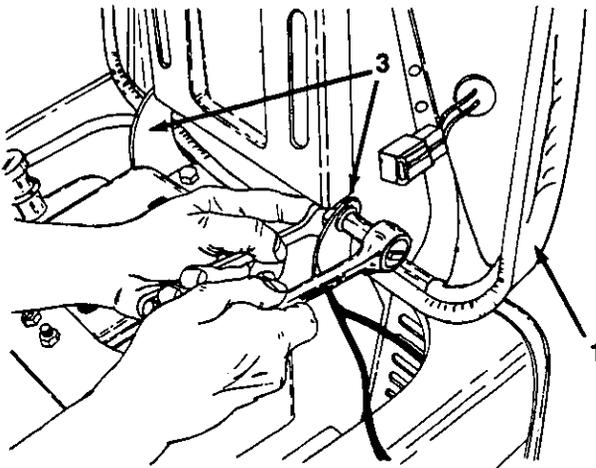

FIGURE 2.
3. Remove one hex bolt, two belleville washers and one hex center lock nut on each side of seat and seat mounting bracket. See figure 2.